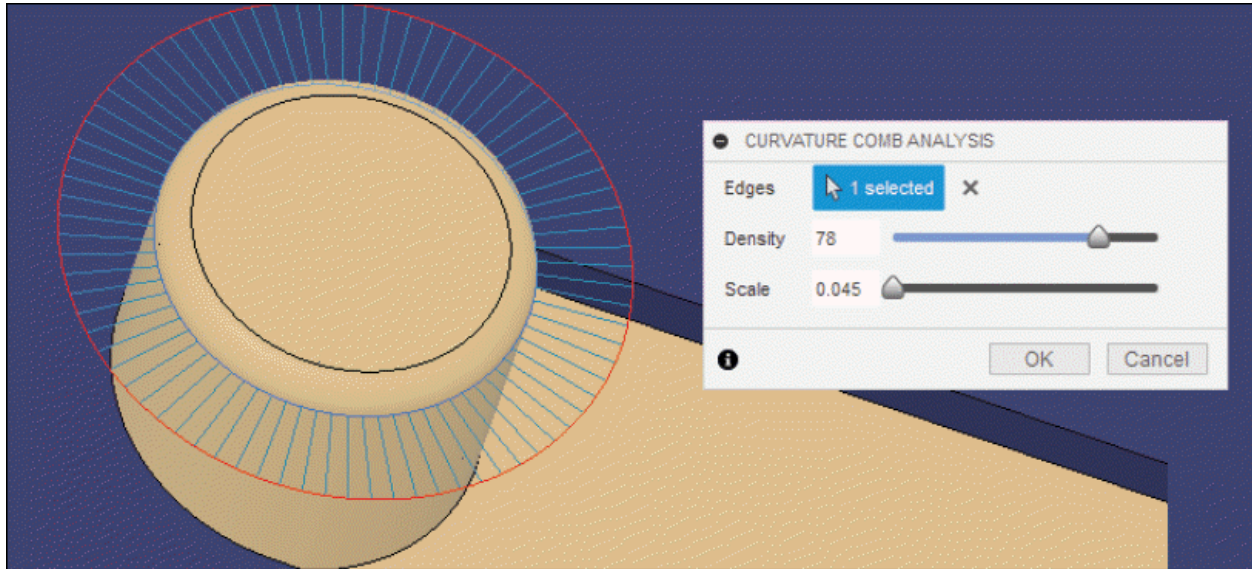

Figure-43. Preview of comb on circular edge
- **Edges** selection of **CURVATURE COMB ANALYSIS** dialog box is active by default. Click on the geometry to select the edge. The preview of comb on edge will be displayed; refer to Figure-43.